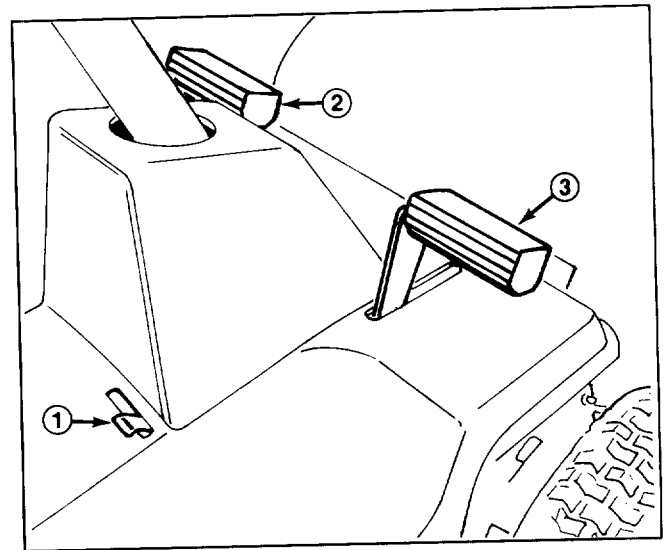

Figure 6
Clutch Pedal (Fig. 6) – Foot-operated clutch pedal is used in conjunction with gear shift. Depress clutch pedal fully when shifting gears. Depress clutch pedal whenever brake is used.
Brake Pedal (Fig. 6) – Foot-operated brake pedal must be depressed to slow down or stop the rider. When pedal is depressed, a caliper engages the brake disc on the side of the transmission. Always depress clutch pedal when using brake.
Parking Brake (Fig. 6) – Parking brake must be used in conjunction with brake pedal. When pedal is depressed and end of parking brake lever holds brake pedal in depressed position, a caliper engages the brake disc at side of transmission.
Ignition Switch (Fig. 6) – Switch has three positions: ON, OFF and START.
1. Engage the parking brake (Fig. 6): refer to using Parking Brake, page 14.
2. Move parking brake control to the left and release brake pedal until it contacts end of parking brake lever (Fig. 6).
3. To release the parking brake, depress brake pedal (Fig. 6), which will allow parking brake lever to return to its disengaged position. Then release brake pedal.